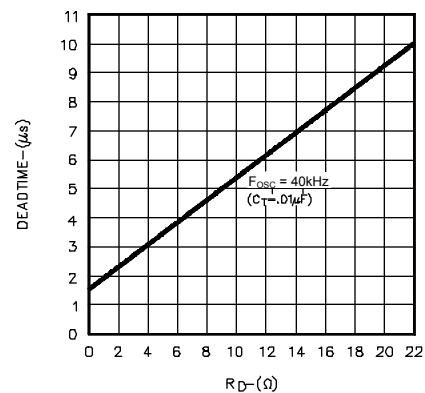

FIGURE 6.
2. If more dead time is required, select a larger value of R_D using Figure 6 as a guide. At 40kHz dead time increases by 400nSec/ohm.